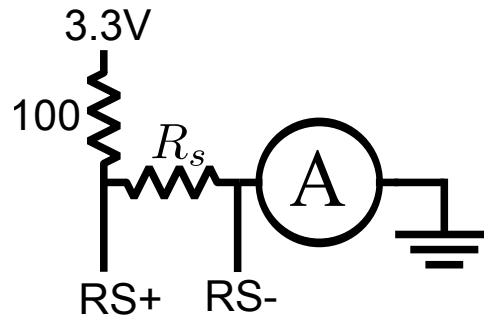

Figure 16.5: Current sensor calibration circuit.
3. Attach a 100Ω resistor and the ammeter to the circuit, as per Fig. 16.5.